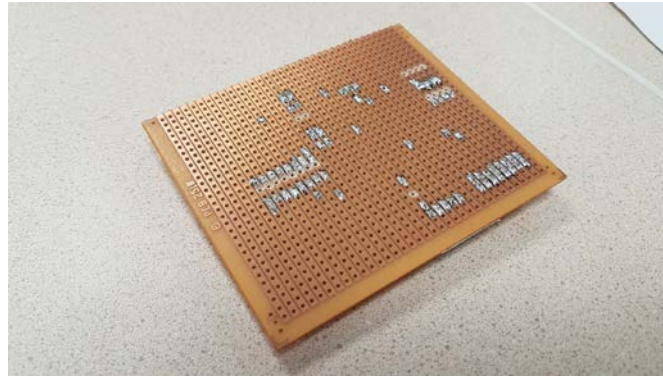

Figure 3.
- Soldering on each pad to be kept neat (prevent solder flow to adjacent track). Trim all wires neatly. Solder to show even adhesion around each solder pad. (figure 3)